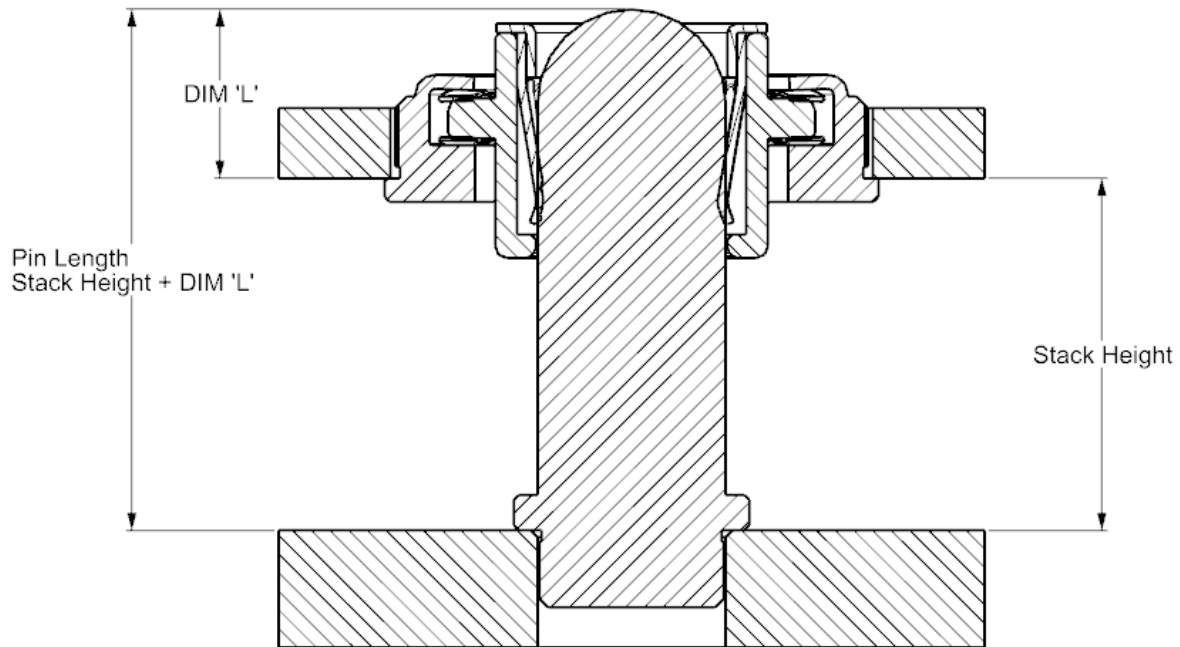

Fig 7.4.1
7.4.1 To determine proper pin length Molex recommends adding below lengths to the applications stack height as shown in figure 7.4.1. This pin length will allow for increased angular misalignment while maintaining acceptable wipe. Stack height tolerances should be taken into account.